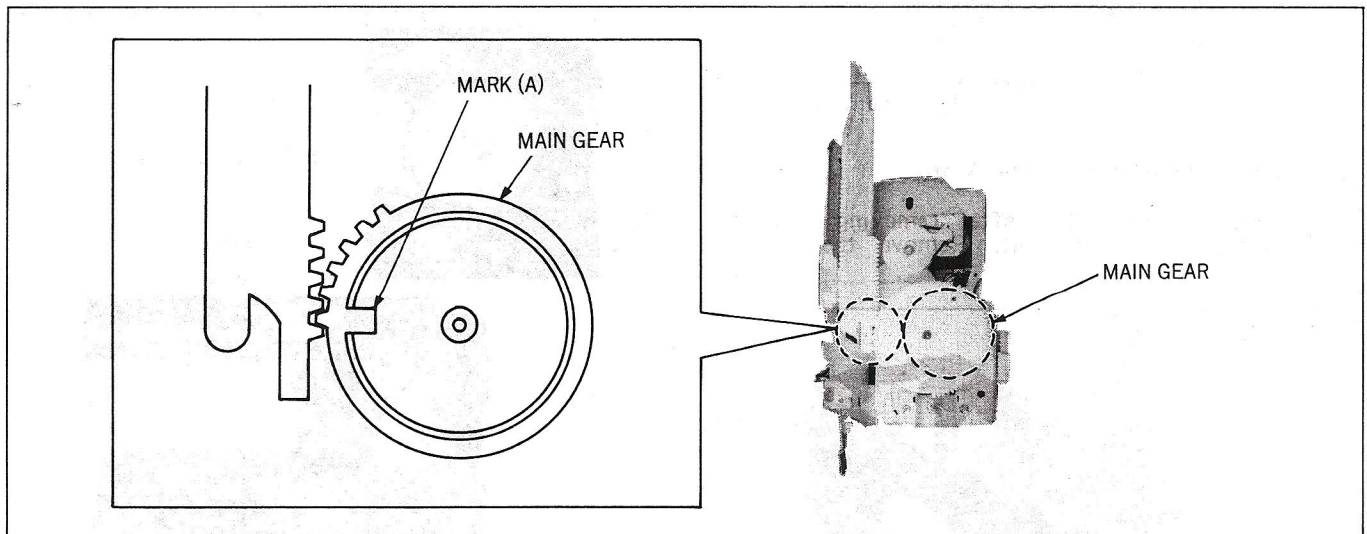

Fig. 6-9
2. Set the Mark (A) rotate the Main Gear until Mark (A) is on the left side as shown in Fig. 6-9.